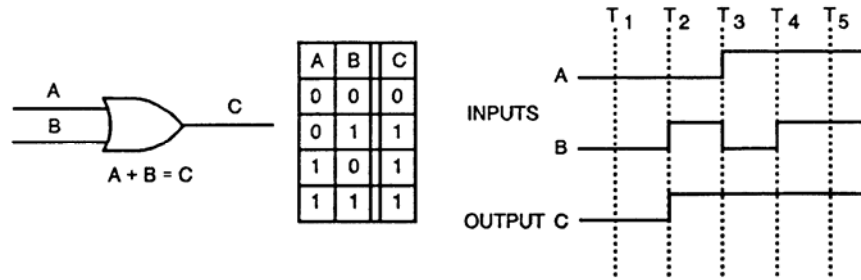

Figure Q-8. OR Gate
c. OR Gate. The OR gate performs the mathematical operation of disjunction. Any input or all inputs present will produce an output. Figure Q-8 shows the symbol, truth table, Boolean expression, and waveforms.